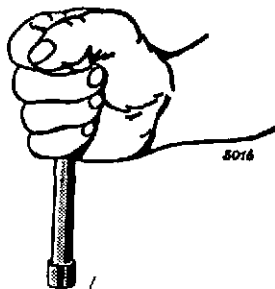

Fig. 33
2. **Screw the bolts in (Fig. 33)** until they are squarely seated, using a socket spanner without tommy bar or, in the absence of a socket spanner, a box or open-end spanner without making use of the leverage.